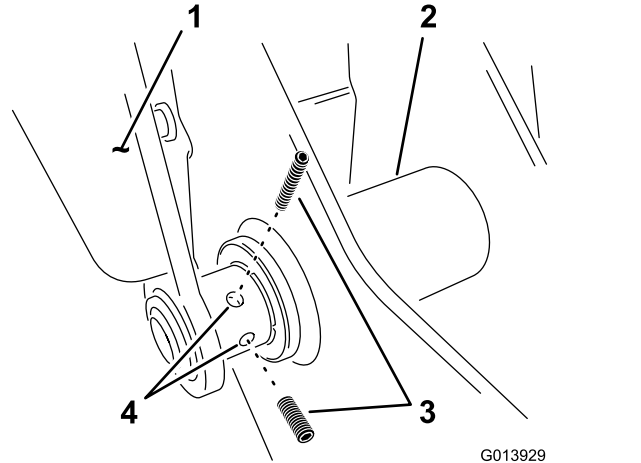

Figure 7
- Thread 2 set screws into the left arm at the lower hinge point (Figure 7).
6. Tighten the 2 set screws on the left hand pivot arm, refer to Figure 7 in Assembling the Cradle Arms to the Support Frame (page 6).